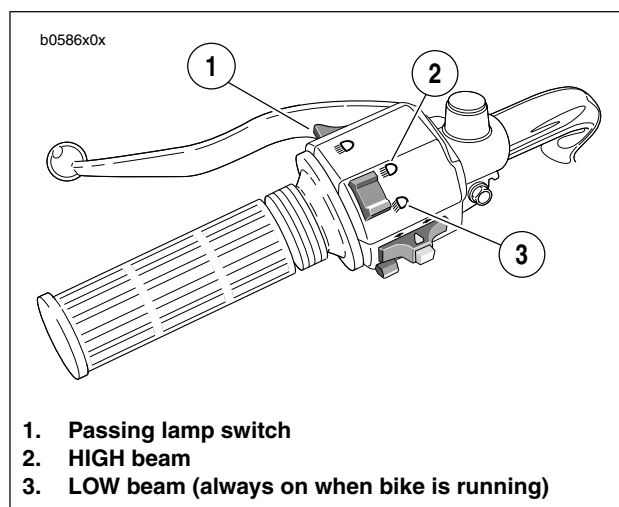

Figure 7-47. Headlight Controls
6. See Figure 7-47. Check headlight for proper operation. If operation fails, reread procedure and verify that all steps were performed.
- b. Check headlight LOW (3) and HIGH beam (2) settings.
- c. Set headlight to LOW beam. Press passing lamp switch (1). Headlight should flash HIGH beam for as long as the switch is pressed.